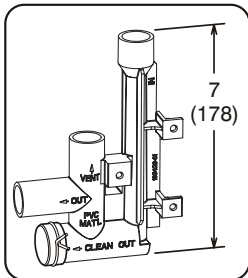

FIGURE 53
This unit is designed for either right- or left-side exit of condensate piping in upflow applications. In horizontal applications, the condensate trap must extend below the unit. An 8" service clearance is required for the condensate trap. Refer to figures FIGURE 45 and FIGURE 47 for condensate trap locations. FIGURE 53 shows trap assembly using 1/2" PVC or 3/4" PVC.
- 3 - Install the cap over the clean out opening at the base of the trap. Secure with clamp. See FIGURE 53.
- 4 - Install drain trap using appropriate PVC fittings, glue all joints. Glue the provided drain trap as shown in FIGURE 53. Route the condensate line to an open drain. Condensate line must maintain a 1/4" downward slope from the furnace to the drain.